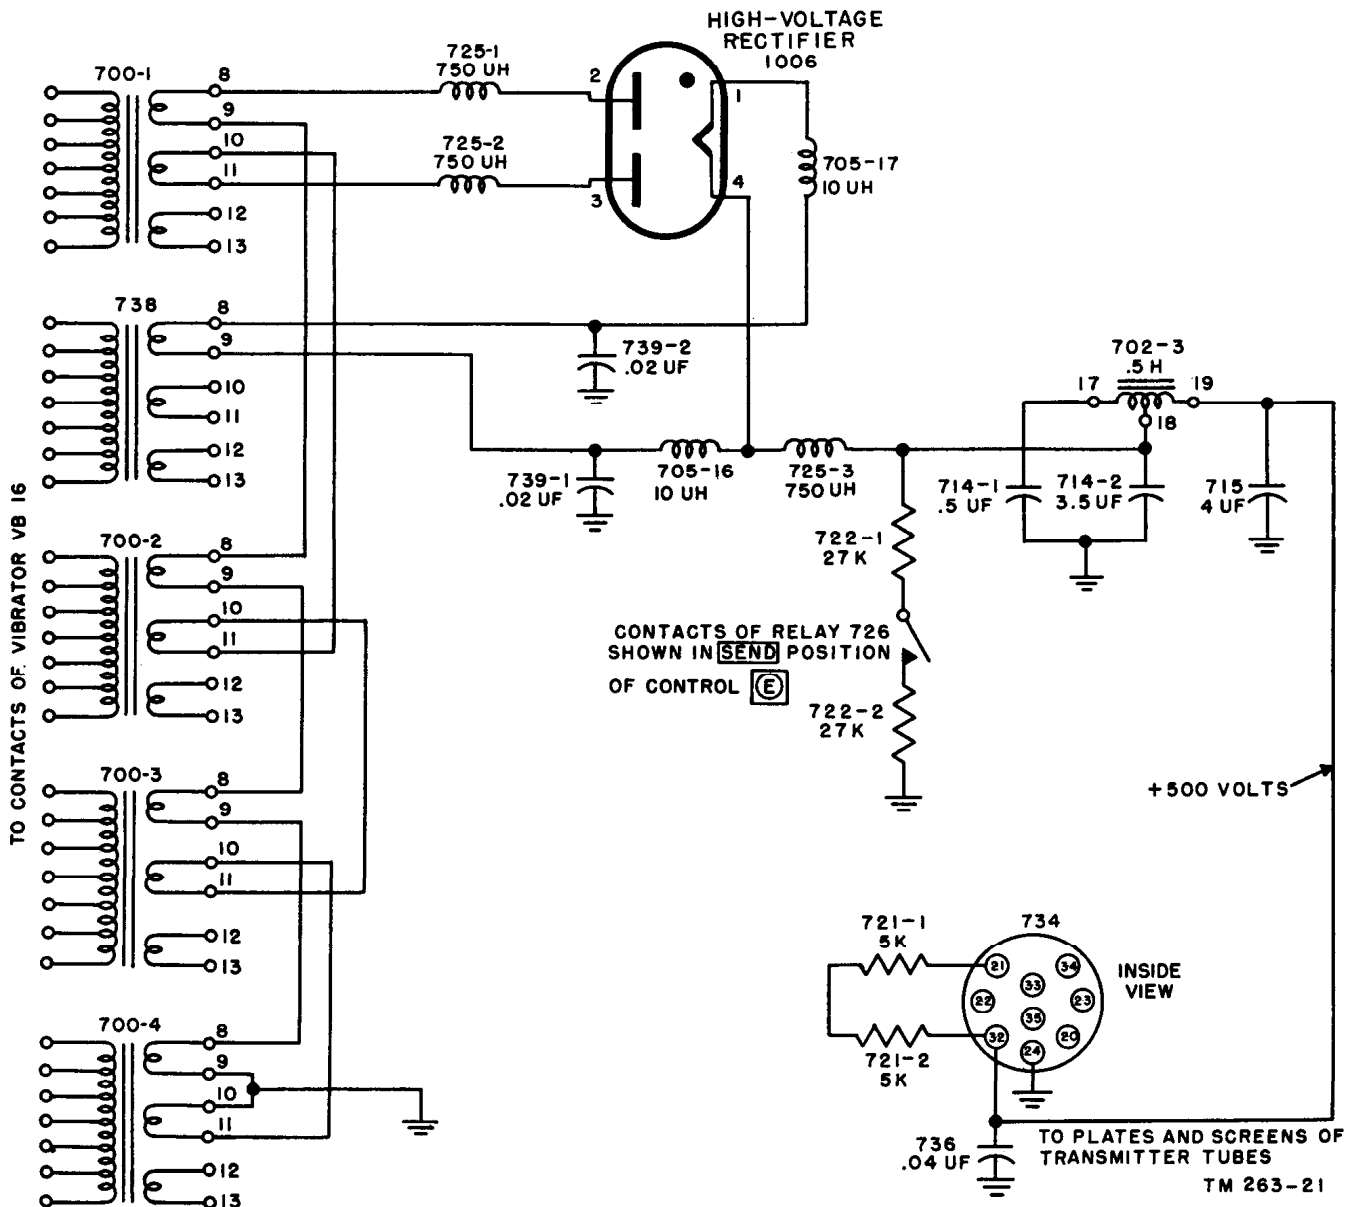

Figure 98. High-voltage rectifier and filters of heavy-duty section, simplified schematic diagram.
a. The ac surges through the primaries of the power transformers cause a very high voltage to be induced in the secondaries (fig. 98). All the secondaries that have taps marked 8, 9, 10, and 11 are connected in series, except the windings of transformer 738. The combined voltage present in this series combination is impressed upon the plates of rectifier tube 1006, which operates as a full-wave rectifier, and is rectified. The filament of tube 1006 receives its voltage from taps 8 and 9 of transformer 738 and this is the only purpose for which transformer 738 is used. Because of rf noise generated in gas tube 1006, it is necessary to place rf choke coils 725-1 and 725-2 in series with the rectifier plates to filter out any rf disturbances which occur. Hash suppression filters, located in the filament leads, consist of capacitors 739-1 and 739-2 in conjunction with choke coils 705-16 and 705-17. The rectified hv output is taken from pin 4 of tube 1006, to ground.
a. Capacitor 739-1 and 739-2 (fig. 98), which are the filament bypass capacitors for the hv rectifier tube 1006 filaments, are not supplied in early models of Vibrator Power Supply PE-237. Hv surge resistor 740 and time delay relay 743 are used only in models having serial numbers 22436 and up (figs. 97 and 172).
b. Another change is the method of operation of rectifier tube 1006. In the late models (fig. 172) of the vibrator power supply, this tube has its filament heated by voltage from transformer 738, while only four power transformers, 700-1 through 700-4, supply plate voltage to the rectifier tube (fig. 98). In the older models, the filament of the hv rectifier tube 1006 did not have any voltage applied to it, so it operated as a cold-cathode rectifier, having five power transformers supplying rectifier plate voltage (fig. 171).